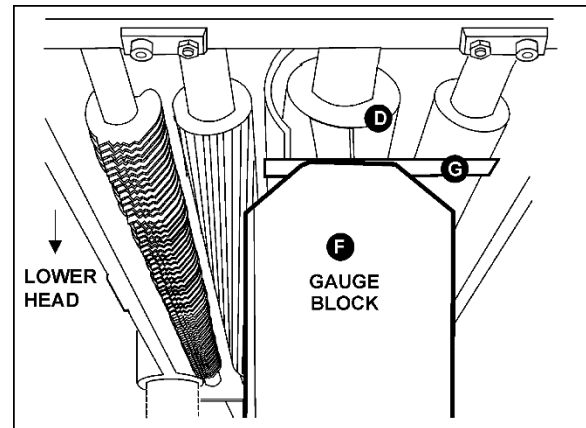

Figure 8-7
4. Place gauge block (F, Figure 8-7) on table directly beneath cutterhead (D).
5. Using a 0.032" (0.81mm) feeler gauge (G, Figure 8-7) placed on top of the gauge block, lower head until knife just contacts feeler gauge when knife is at its lowest point. Do not move head any farther until outfeed roller is adjusted.